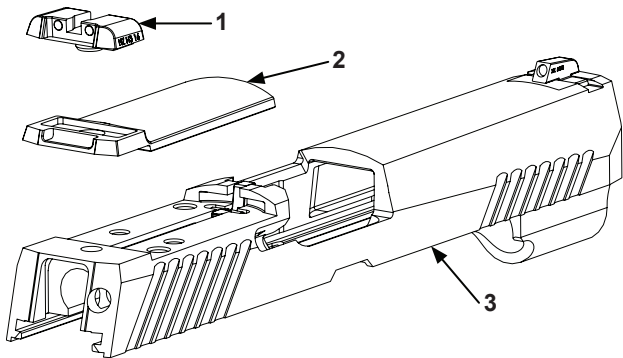

Figure 8. Removal of Sight Plate
8. Remove rear sight base assembly (Figure 8, Item 1), sight plate (Figure 8, Item 2) from slide (Figure 8, Item 3).